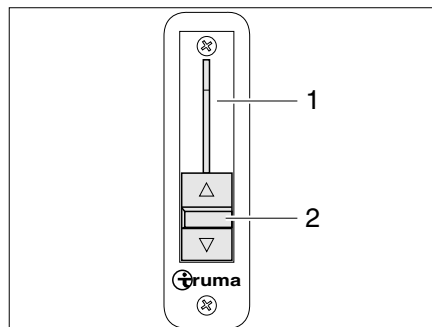

Fig. 26 Branch block
The sliding regulator (Fig. 26,2) for the branch block (Fig. 26,1) is located on the outside left of the dashboard.
- Push the lever (Fig. 26,2) completely downwards. The branch block is closed.